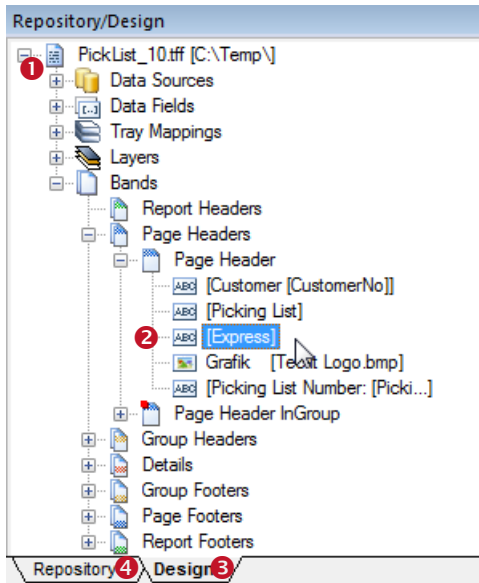

Figure 14: Design Tree Window
To select an object, click on it with the left mouse button. Hold down the *Shift* key or the *Ctrl* key for multiple selection. Figure 14 shows a selected text element (❷), which is located in the page header of a layout called "PickList\_10.tff".